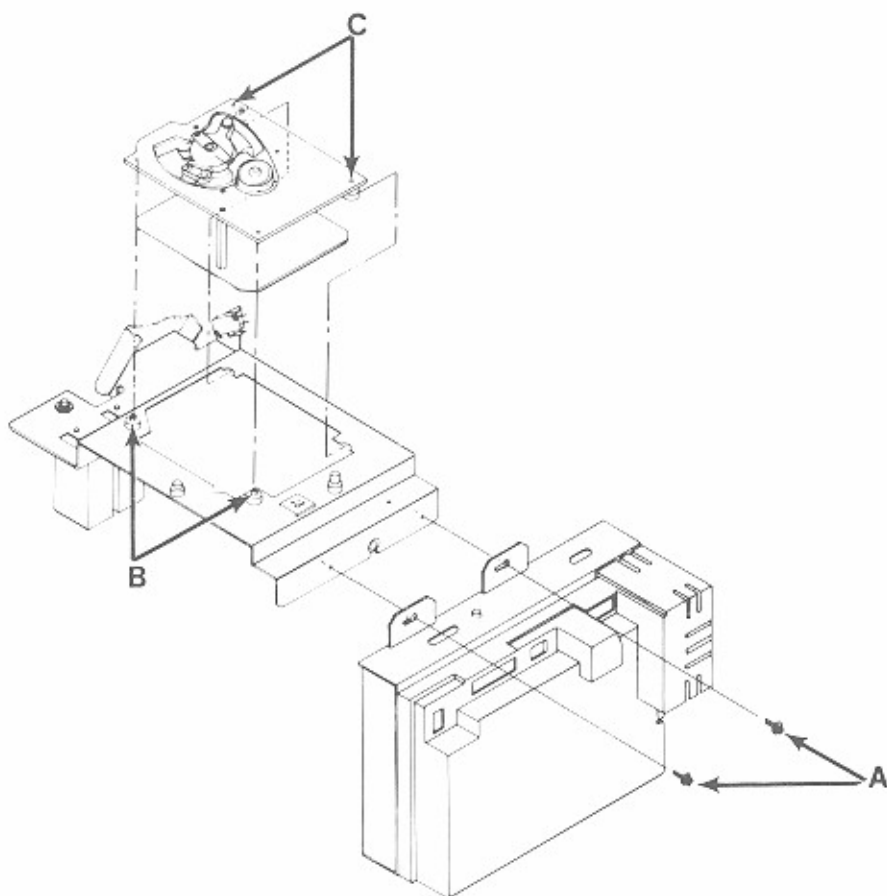

Figure 6-1. Removing the CD Player
2. Remove all connectors from the mechanism control unit, loosen the two top screws (*figure 6-1, ref. A*), and remove the mechanism control unit.
Loosen the two front mounting screws (These screws remain part of the phonograph. See *figure 6-1, ref. B* on the underside of the CD player mounting plate.